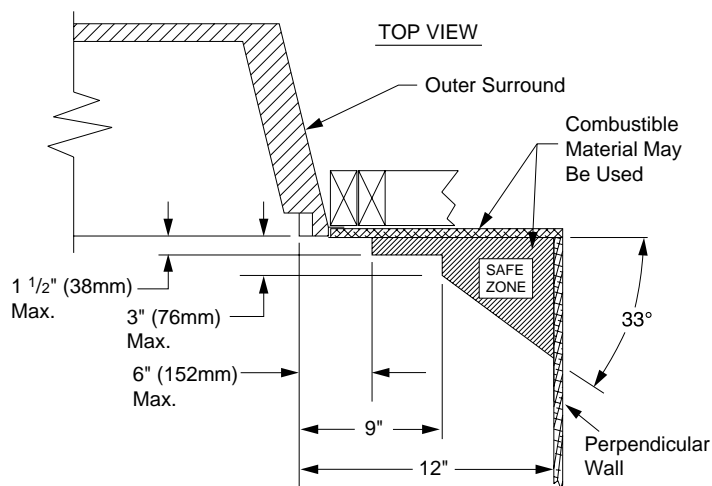

Figure 6 - Side Clearances - Top View (Cross Section)
- Perpendicular Wall See Figure 6